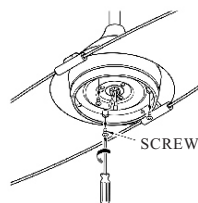

FIG.14
3. Remove 3 screws on light kit plate. (see Fig. 14)